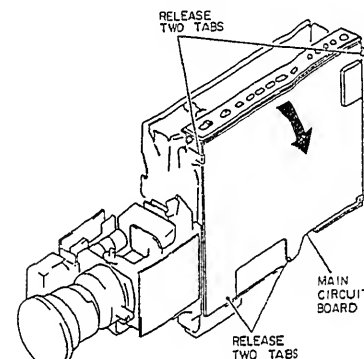
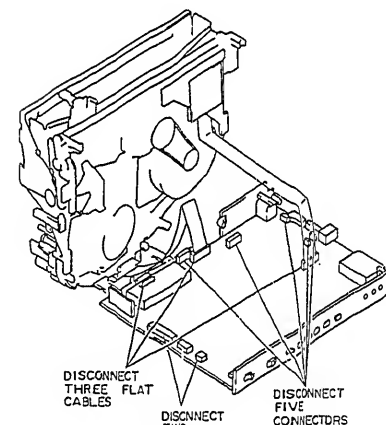

Fig. 2-9
Fig. 2-10
1. Release two (2) tabs and open the main
- circuit board in the direction of the arrow. (See Fig. 2-9)
2. Disconnect two (2) connectors (CN905, CN910) holding the camera section and VTR section. (See Fig. 2-10)
3. Disconnect five (5) connectors (CN402, CN403, CN602, CN904, CN912).
4. Disconnect three (3) flat cables (CN201, CN601, CN903).
5. Release two (2) tabs holding the main circuit board. (See Fig. 2-9)